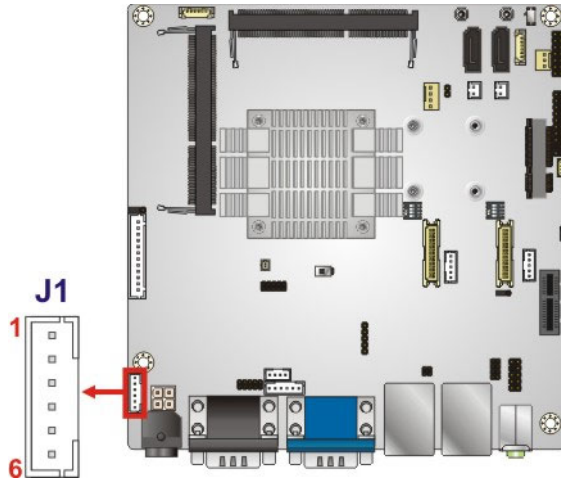

Figure 3-8: Battery LED Connector Location
- CN Location:** See **Figure 3-8**